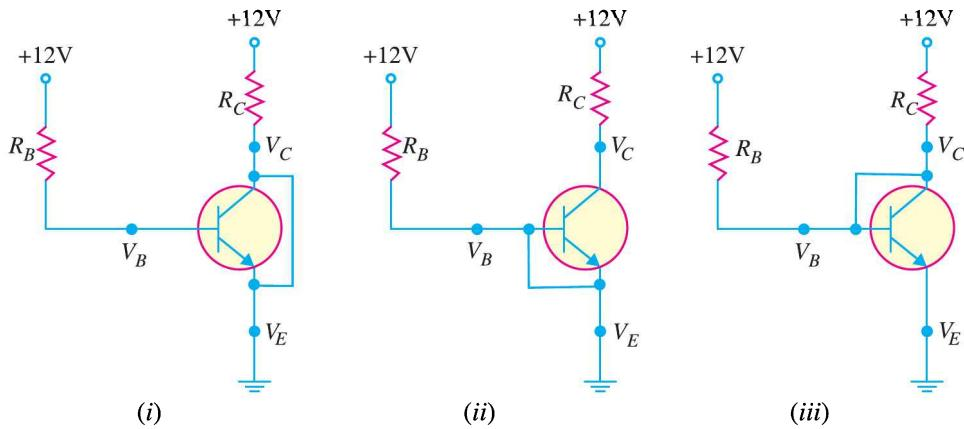

Fig. 8.28
**Example 8.21.** Fig. 8.28 shows the short circuit failures in a transistor. What will be the circuit behaviour in each case ?
**Solution.** Fig. 8.28 shows the short circuit failures in a transistor. We shall discuss the circuit behaviour in each case.
(i) **Collector-emitter short.** Fig. 8.28 (i) shows a short between collector and emitter. The emitter diode is still forward biased, so we expect to see 0.7V at the base. Since the collector is shorted to the emitter,  $V_C = V_E = 0V$ .
(ii) **Base-emitter short.** Fig. 8.28 (ii) shows a short between base and emitter. Since the base is now directly connected to ground,  $V_B = 0$ . Therefore, the current through  $R_B$  will be diverted to ground and there is no current to forward bias the emitter diode. As a result, the transistor will be *cut-off* and there is no collector current. So we will expect the collector voltage to be 12V.
(iii) **Collector-base short.** Fig. 8.28 (iii) shows a short between the collector and the base. In this case, the emitter diode is still forward biased so  $V_B = 0.7V$ . Now, however, because the collector is shorted to the base,  $V_C = V_B = 0.7V$ .